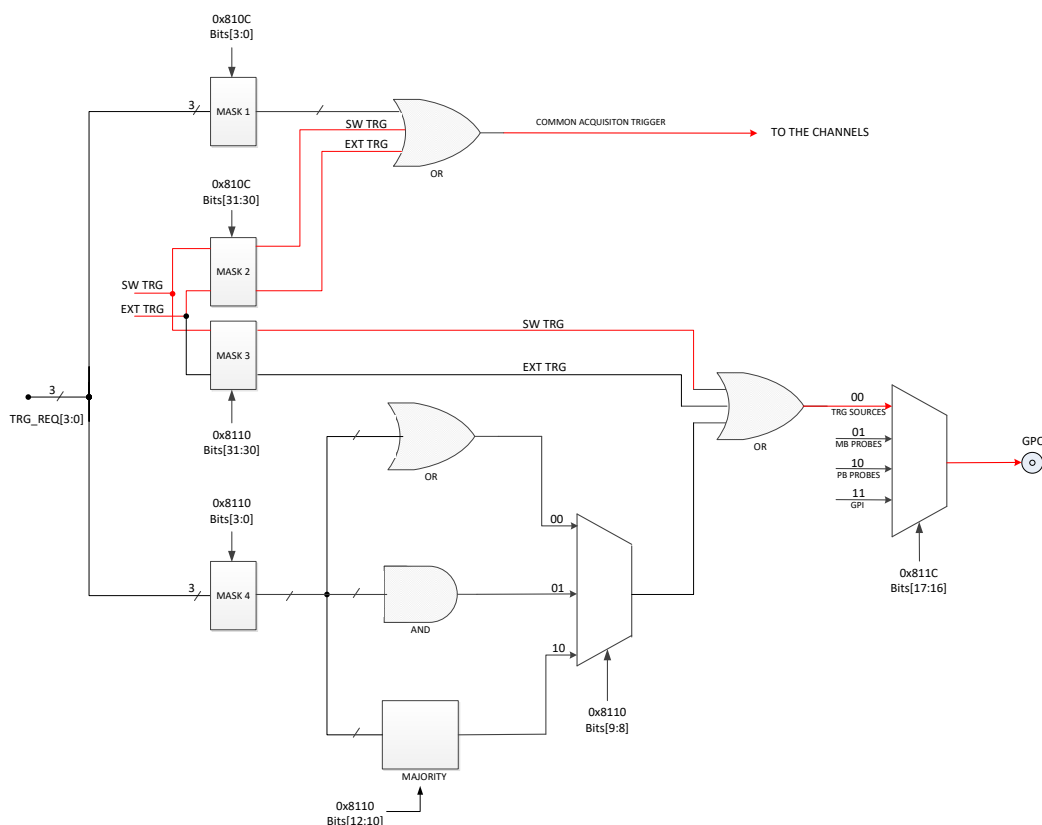

Fig. 9.20: Trigger configuration on GPO front panel output connector
As described in Sec. **Trigger Management**, the OR of all the enabled trigger sources, synchronized with the internal clock, becomes the common trigger of the board that is fed in parallel to all channels, consequently provoking the capture of an event. By default, only the Software Trigger and the External Trigger participate in the common acquisition trigger (refer to the red path on top of **Fig. 9.20**).
Thanks to its configurability (see **Fig. 9.20**), GPO can propagate out:
- the OR of all the enabled trigger sources (only the Software Trigger is provided by default, as in the red path of **Fig. 9.20**);